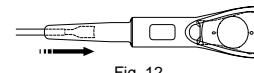

Fig. 12
6. Close the jaws of the ICL and TICL loading forceps and insert them into the barrel, from the front of the Cartridge. (Fig. 12)